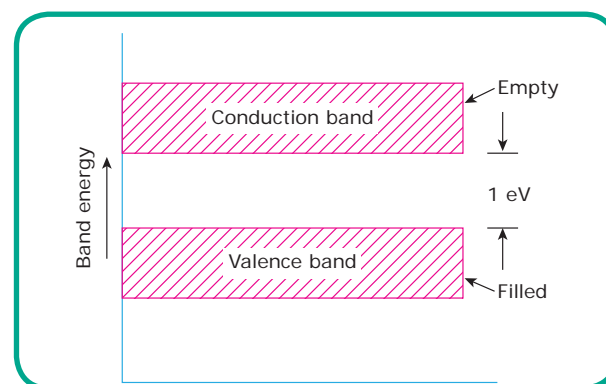

Figure 3.10 Energy band of semiconductor
c) Semiconductors: Semiconductors (e.g. Germanium, Silicon, Graphene, etc.) are those substances whose electrical property lies in between conductors and insulators. In terms of energy band, the valence band is almost full but the conduction band is empty. Further, the energy gap between valence band and conduction band is very small ($\approx 1\text{eV}$) as shown in Figure 3.10. Hence, smaller electric field is required to push the electron from the valence band to conduction band.